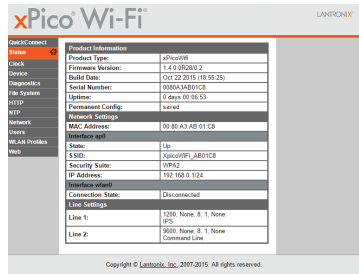

Figure 11: xPico WiFi Main Page
7. The XPico WiFi main page will open. Click on Quick Connect at the top of the menu and select the WiFi network to be used (e.g. H88d3). See Figure 11.